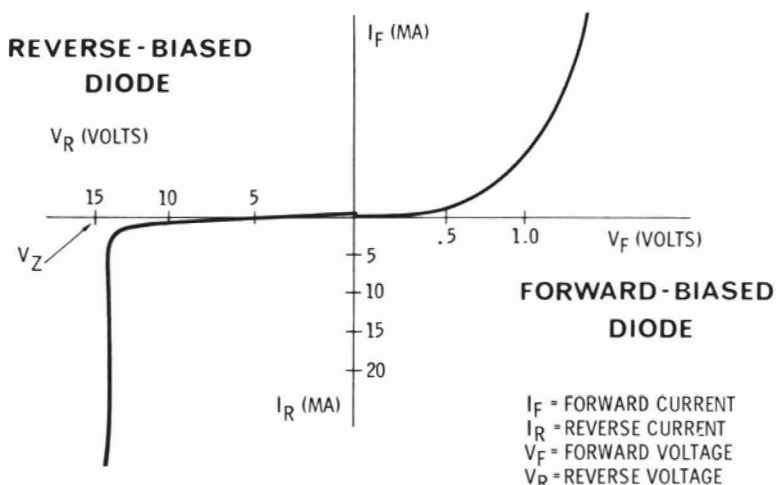
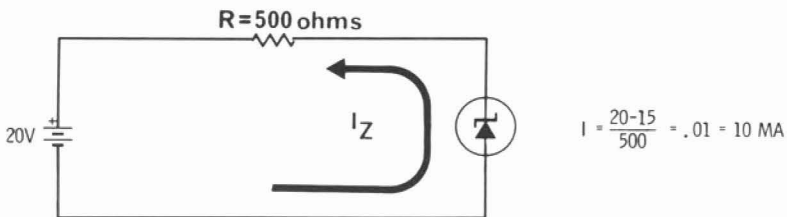

Fig. 6-3. Zener-diode characteristics.
Fig. 6-4. Series-limiting resistor.
The voltage-current characteristic curve for a typical zener diode is shown in Fig. 6-3. The forward-biased zener is represented by the right-hand half of the curve and is similar to a regular semiconductor diode. The portion of the curve that characterizes the zener diode, and therefore, is of particular interest here, is the left-hand portion of the curve. The forward-voltage portion of the curve is not drawn in proportion to the reverse-voltage portion. The forward portion remains relatively constant for all zeners and it is drawn in the illustration out of proportion to the reverse voltage to show more detail. The position of the zener breakdown voltage will naturally vary, depending of the type of zener. This illustration shows a 15-volt zener diode.
The most important characteristic of the zener diode in selecting one for a particular application is the zener breakdown voltage. As the reverse voltage across the diodes is increased from zero, a point will be reached where the voltage will not increase any further. This point is labeled  $V_z$  in Fig. 6-3 and is called the zener breakdown voltage. At this point, the current changes from practically no conduction at all to a value that is determined by the amount of resistance in series with the zener diode. This is shown in Fig. 6-4. A power-supply voltage higher than the zener voltage should not be put directly across the zener because there will be nothing to limit the current, and destruction of the unit is likely to occur. The current through the zener is actually determined by the resistor in series with it, and the voltage across the two components. A simple calculation is included in the illustration to demonstrate the point.
Of prime importance to notice in the illustration of Fig. 6-3 is that in the breakdown region, a constant voltage,  $V_z$ , is available for a rather large range of current. The limiting factor of the allowable amount of current that a zener can conduct is its rated maximum power dissipation as discussed in the next section, when some simple circuits are explained.
- Q6-6. If the power supply in Fig. 6-4 were lowered to below \_\_\_\_\_ volts, there would be a negligible amount of current.